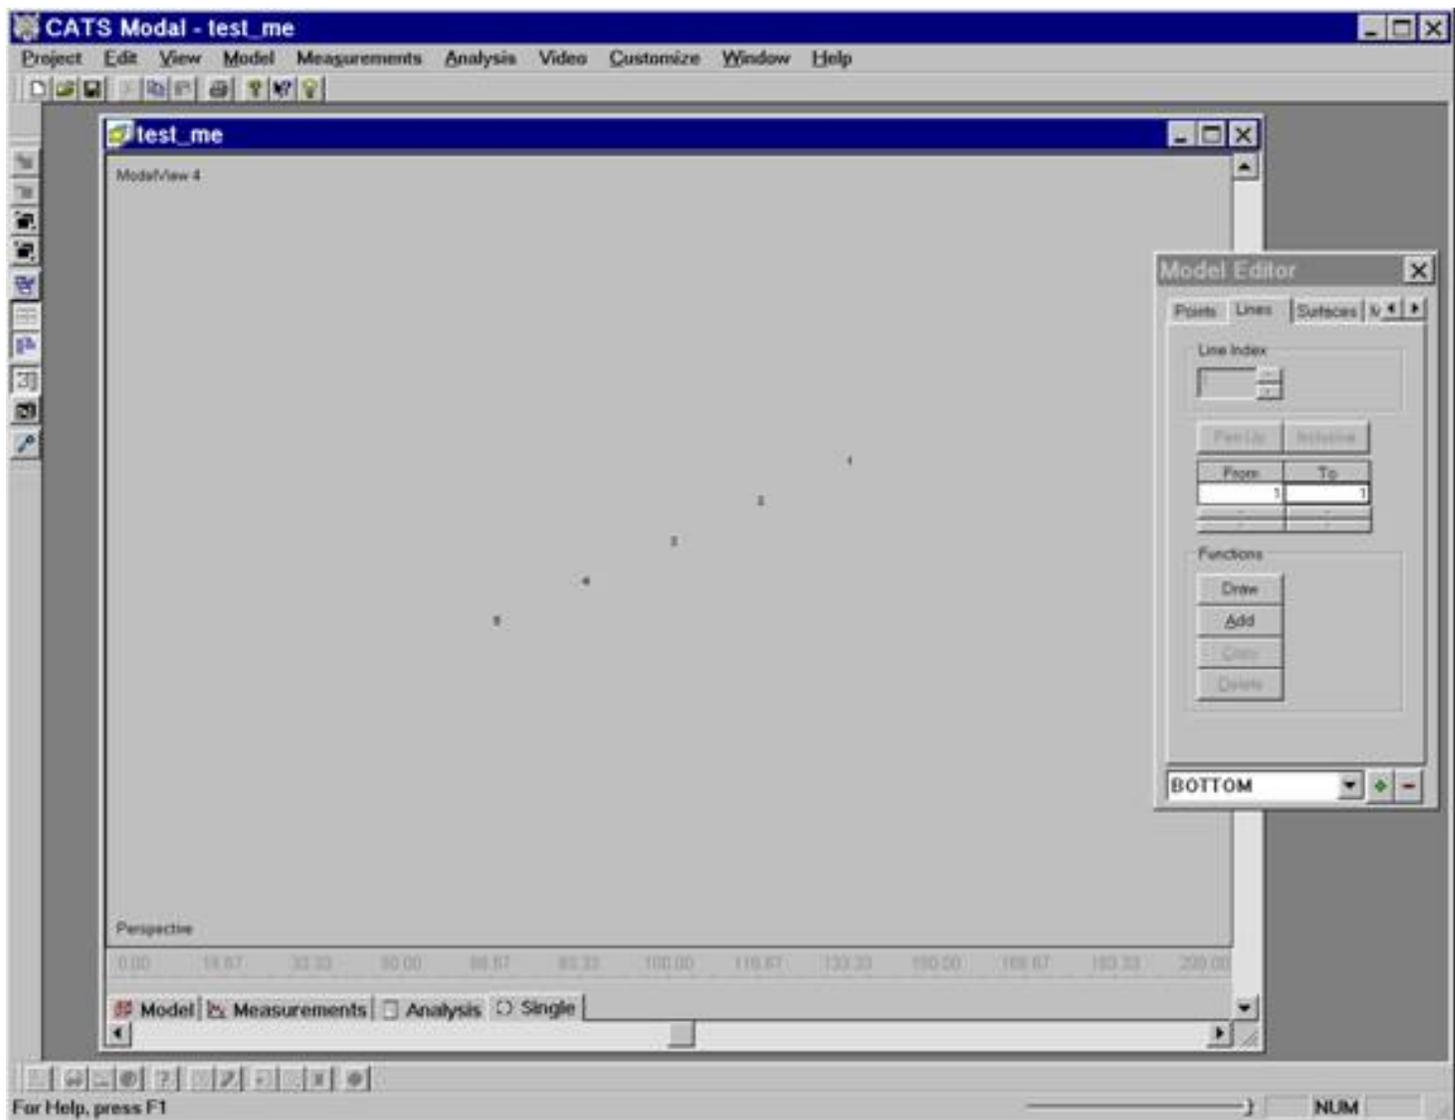

Figure 7
(The above steps will show us the point numbers at the coordinate location identified in the Points tab. See Figure 7.)
22) (Refer to Figure 7) Left click on Point number 1 and then left click Point number 2. (This will draw and line from point 1 to 2) Also, the second left click terminates the end of the line drawing. The next left click will increment the Line Index automatically.